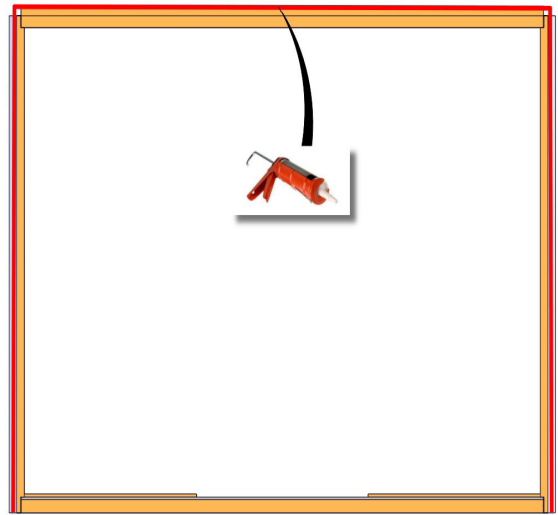

Fig. 11
- Bead must run continuously around both sides and across the head, in line with and completely covering the nailing flange holes. (Fig. 11)